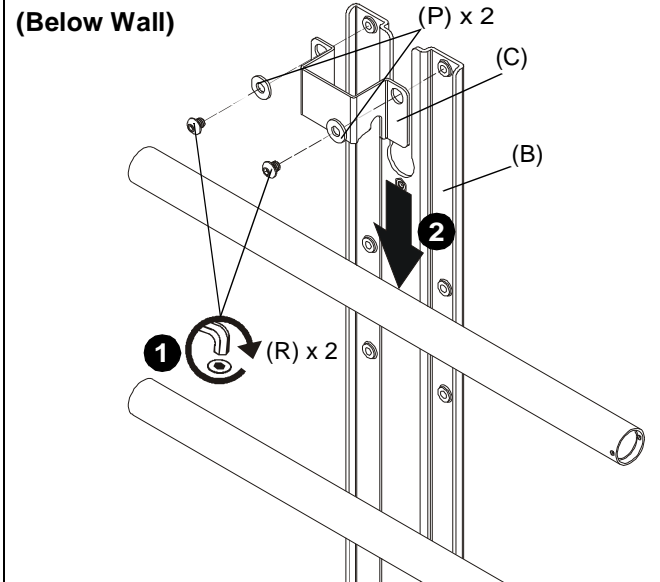

Figure 5
1. Use two 1/4-20 x 1/4" button head cap screws (R) and two large washers (P) to secure support bracket (C) to main bracket (B). (See Figure 5)
2. Slide main bracket (B) behind wall mount rails until support bracket (C) rests on top of wall mount rail. (See Figure 5)